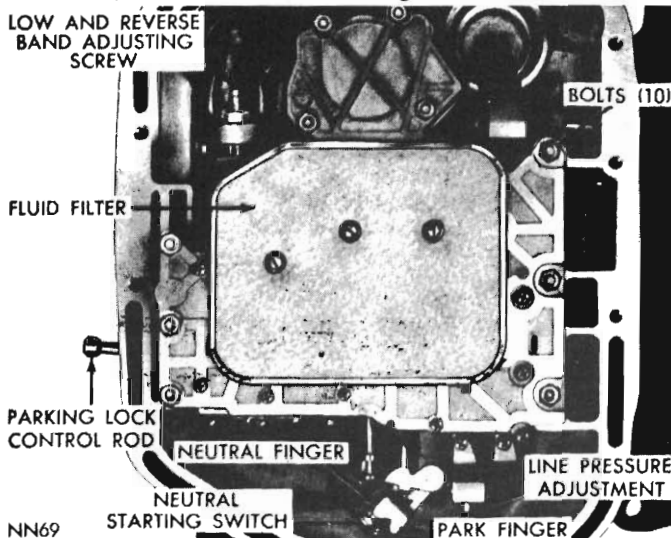

Fig. 24 - Bottom view of transmission (pan removed)
(1) Raise vehicle, drain transmission fluid, and remove the oil pan.
(2) Loosen adjusting screw lock nut and back off nut approximately five turns (Fig. 24). Test adjusting screw for free turning in the lever.